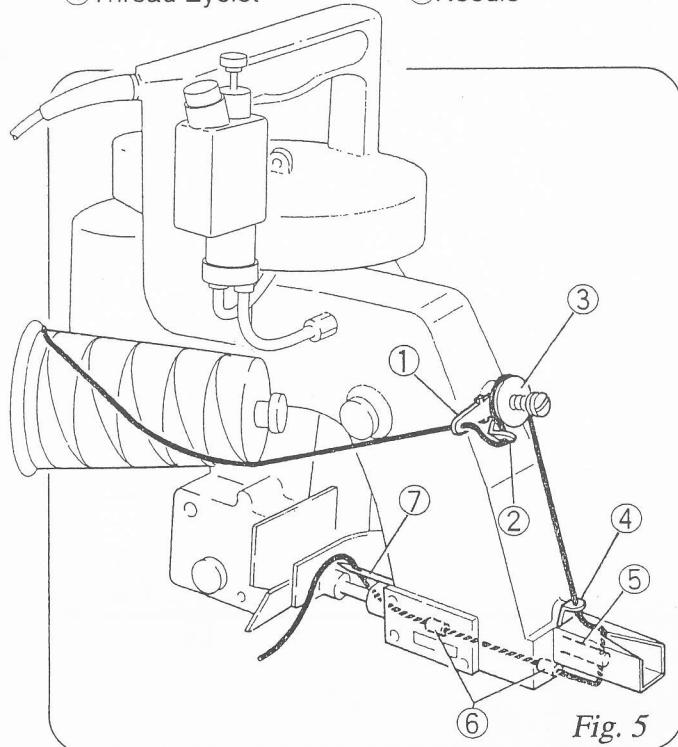

Fig. 5
3.Threading(Fig.5)
The machine is delivered being threaded to show you proper threading of the machine,which is shown in Fig.5, for identification. Follow the guide numbers 1 to 7 of Fig.5.